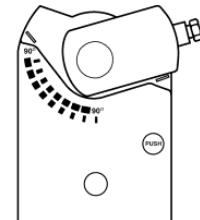

FIGURE 12
- a. Insert the shaft adapter to the right as close as possible to the raised stop. Figure 12.